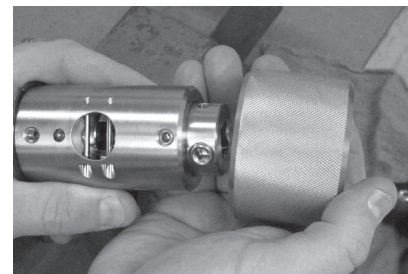

Fig. 29 Removing the drive nut
3. Remove the drive nut from the driver/blade holder. (Fig. 29)